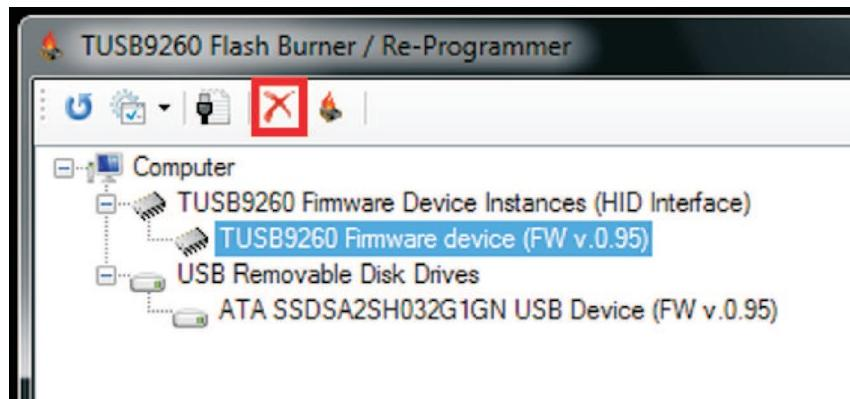

Figure 4-13. Erasing SPI Flash With HID FW Already Burned
- In this case, you must select the HID interface instance of your choice that is shown in the compatible device list and then click on the “Erase Flash” button (see Figure 4-13).